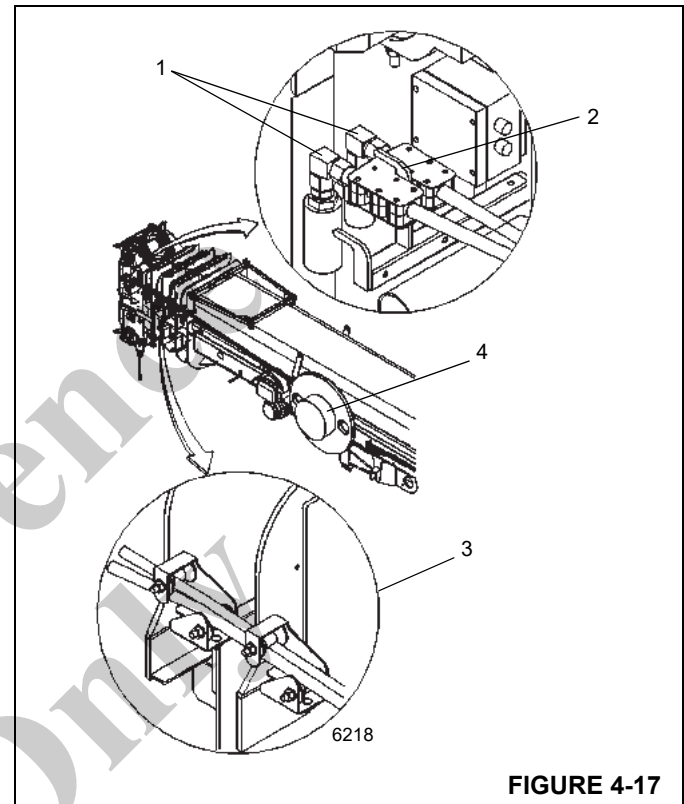

FIGURE 4-17
If the hoses are stowed on the holder on the boom base section, release the hose drum (4) (Figure 4-17) lock pin and pull the hydraulic hoses toward the boom nose. Anchor the